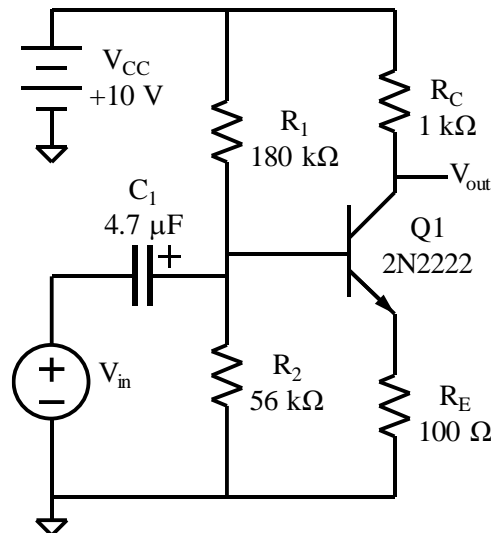

Fig. 2. Common-emitter amplifier with emitter resistor.
3. Consider the circuit in Fig. 2.
CE, with R_E , Fig. 2
The CE amplifier in Fig. 2 has a voltage gain transfer function